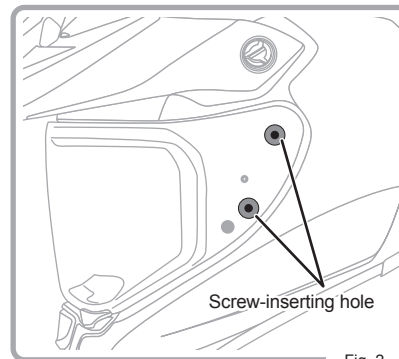

Fig. 2
2. Align the shield ratchet holes with the holes on the helmet. (Fig. 2)